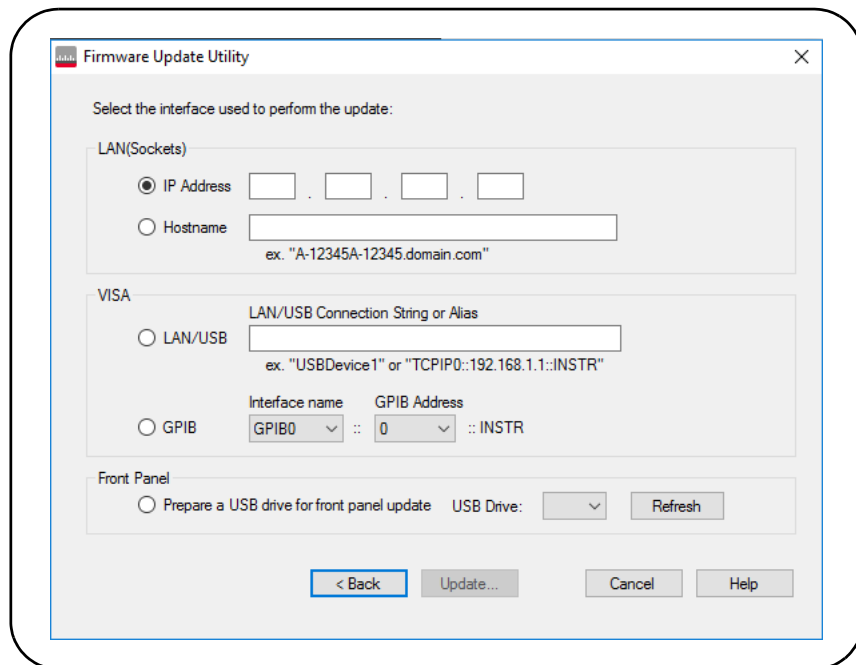

Figure 2-10 Specifying the Address or Host Name.
- 3 Enter the counter's IP address or host name (Figure 2-10). Select 'Update' to start the update process.